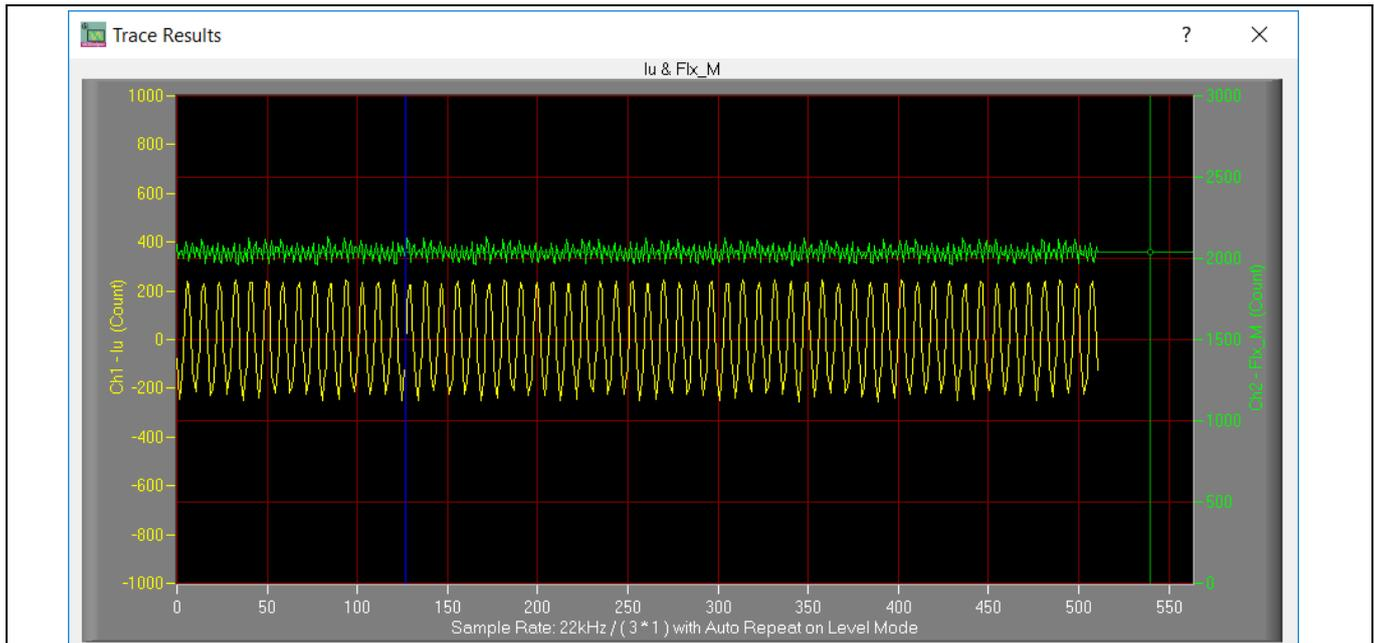

Figure 10 Trace waveform for I_u & Flx_M at 50% speed
3. Set TargetSpeed to about 50% of maximum speed, start "lu & Flx_M" trace with "Auto Repeat on Level," see Figure 10. Flx_M is good within the range of 2000~2500 (rated value is 2048), and must be steady and DC-like.